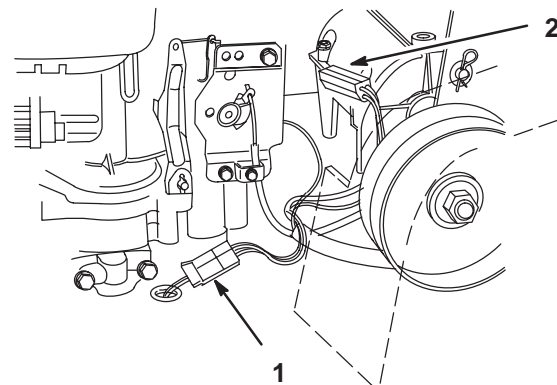

Figure 8
1. Secure clutch and engine in-line wire connectors (Fig. 8).